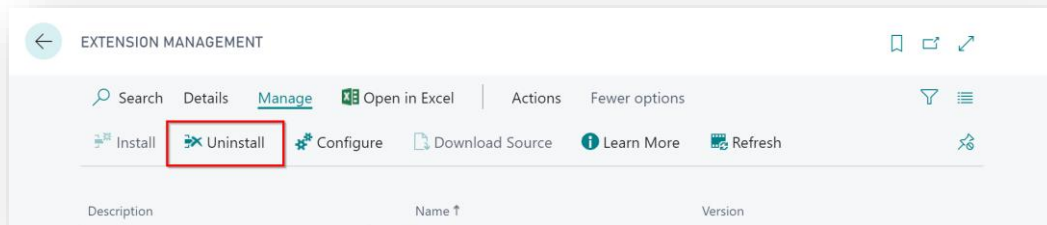

Figure 5-2
3. Select the **SD Stores Logistics** App and choose the **Uninstall** Action (*Figure 5-2*).